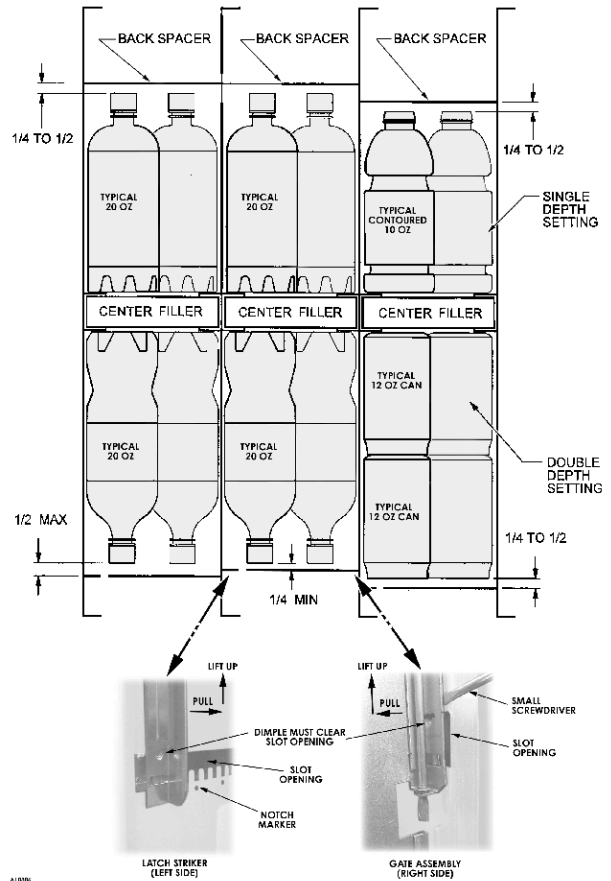

FIGURE 4. COLUMN DEPTH
2. Funnel slides must be kept clean. Refer to **Figure 4** for part names, locations, and product orientation.
3. Refer to **Figure 4**. Product container bottoms must face towards the center of the rack as shown.
8. Add five (5) rows of products in each column to check product spacing. Products should have not more than 1/4 to 1/2 inches of free space at the front or back of the columns as shown on Figure 4 below.
Lift the back spacer and reposition it in the adjustment slots. Use notch markers as reference points to align it vertically. See Figure 4 on page 1.
Pull and lift up on the lower end of gate assembly (or latch striker). Use a small screwdriver as a wedge to gently pry the dimple away from the slot opening. See Figure 4 on page 1. Reposition them in the adjustment slots. Use notch markers as reference points to align it vertically.